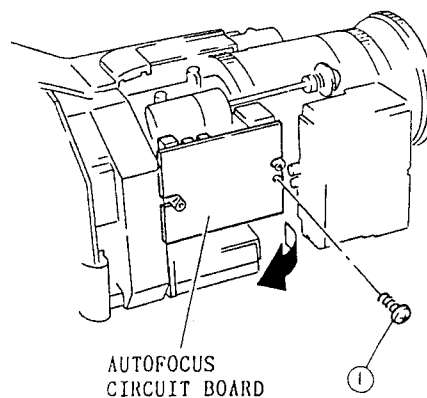

Fig. 2-17
1. Remove one (1) screw and open the autofocus circuit board in the direction of the arrow. (See Fig 2-17)